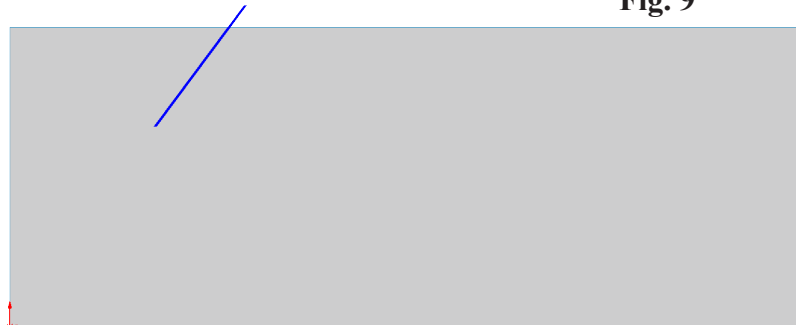

Fig. 10
Step 3. Click **Line**  (L) on the Sketch toolbar.
Step 4. Sketch **line at angle**, **Fig. 10**.
Step 5. Click **Smart Dimension**  (S) on the Sketch toolbar.